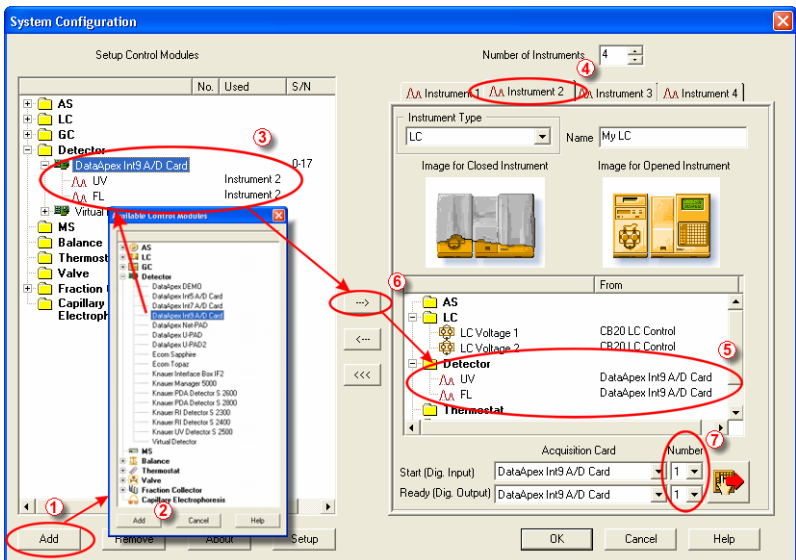

Fig. 4. System Configuration
3. Press the **Add**  button (see Fig. 4) to invoke the **Available Control Modules** dialog.
Note: The **Input** used for an external **Start** from a chromatograph can be set in the **System Configuration** dialog (see Fig. 4 on pg. 10).
- Standard assignment of external start Input and Ready OUT Output can be changed in the **System Configuration** dialog (7 in Fig. 4, pg. 10).